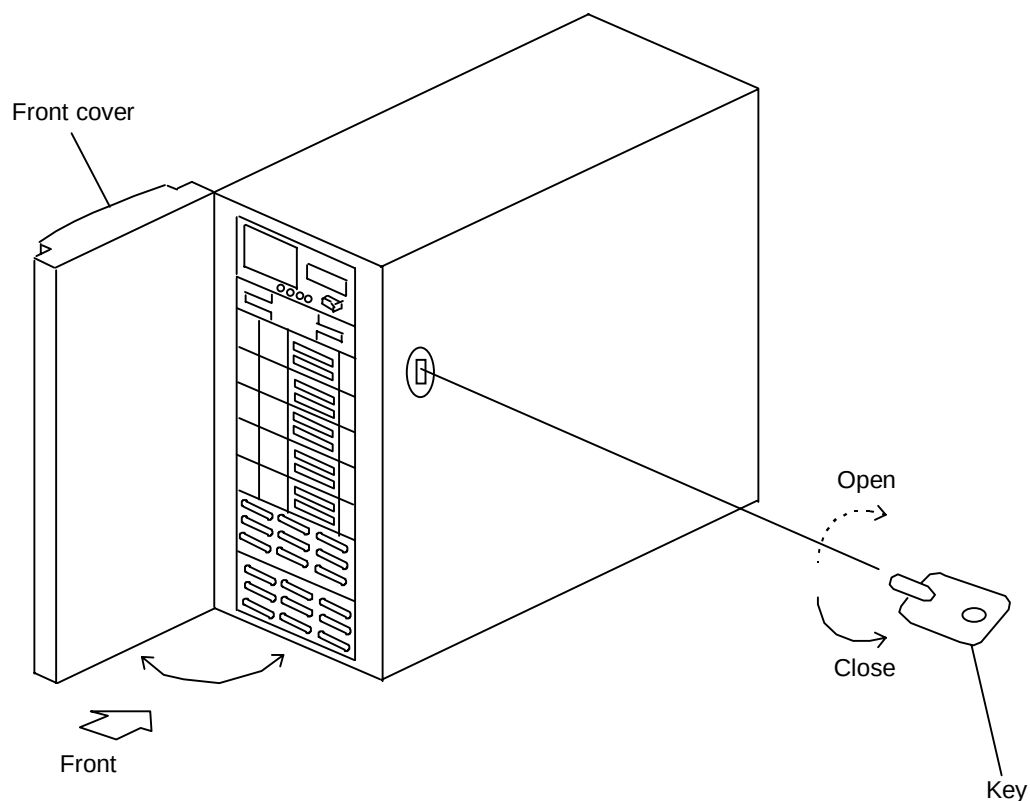

Figure 3.1 Opening/Closing Front Cover
3.1 Opening/Closing the Front Cover (See Figure 3.1.)